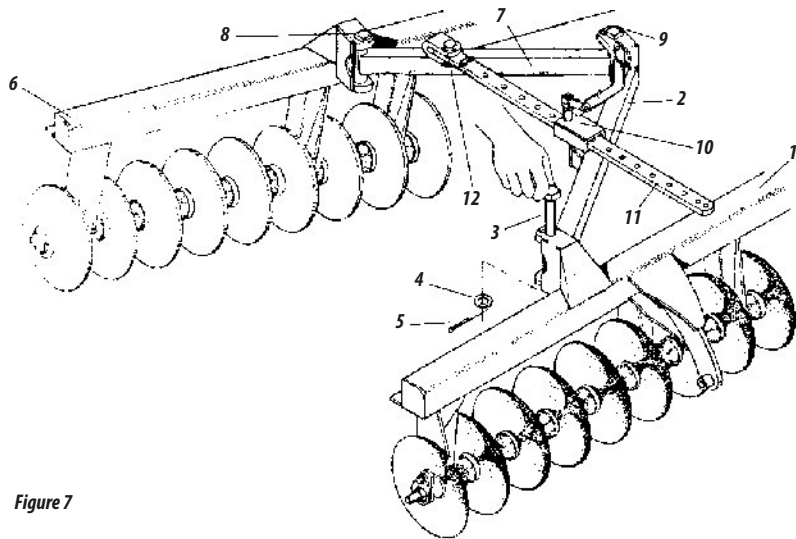

Figure 7
- 01 - Place in the front frame (1), figure 7, the front stabilizer bar (2) through the coupling pin (3), washer (4) and cotter pin (5).
- 02 - Place in rear frame (6), the rear stabilizer bar (7) through the coupling pin (8).
- 03 - Couple the front (2) and rear (7) stabilizer bar through the coupling pin (9).
- 04 - Place the lock handle (10) in the front stabilizer bar, adjusting locking ruler (11), inside the lock handle body, linking it to the rear stabilizer bar through the lock screw (12).